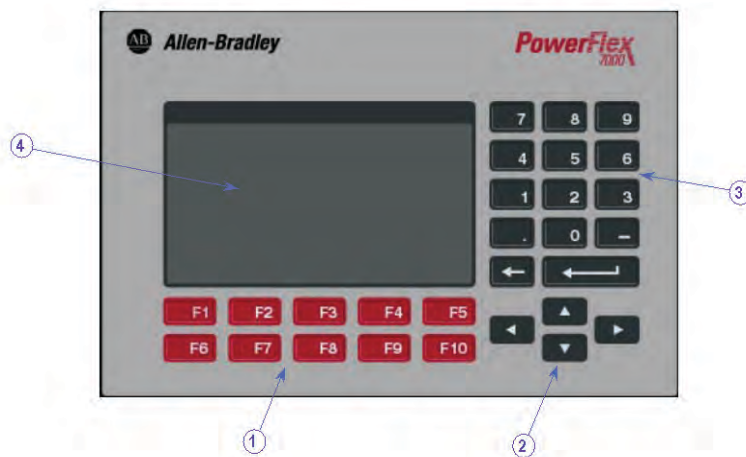

Figure 9 - PowerFlex 7000 “B” Frame Operator Interface Terminal
The PowerFlex 7000 “B” Frame medium voltage drive uses the PanelView 550 terminal as the operator interface (Figure 9 on page 18). The medium voltage drive terminal only uses the PanelView interface hardware, incorporating unique software with a modified faceplate.
The keypad of the operator interface consists of two rows of five function keys (item 1 of Figure 9) located below the operator interface display area (item 4 of Figure 9). In the lower right corner of the operator interface are the four cursor keys, indicated as ▲ or ▼ ◀ or ▶ (item 2 of Figure 9). Above the cursor keys are data entry keys consisting of the numeric values 0-9, a decimal point (.), a negative (-), a backspace key, and a data entry key (item 3 of Figure 9).